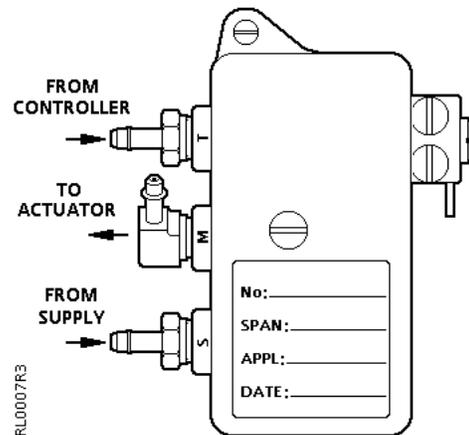

**Figure 2. Attaching the Adjusting Screw to the Spring Arm.**
7. Connect the feedback spring (2) between the spring guide and the adjusting screw (3).
8. Thread one wing nut (4), the lock washer (5) and the flat washer (6) onto the adjusting screw. See *Figure 2*.